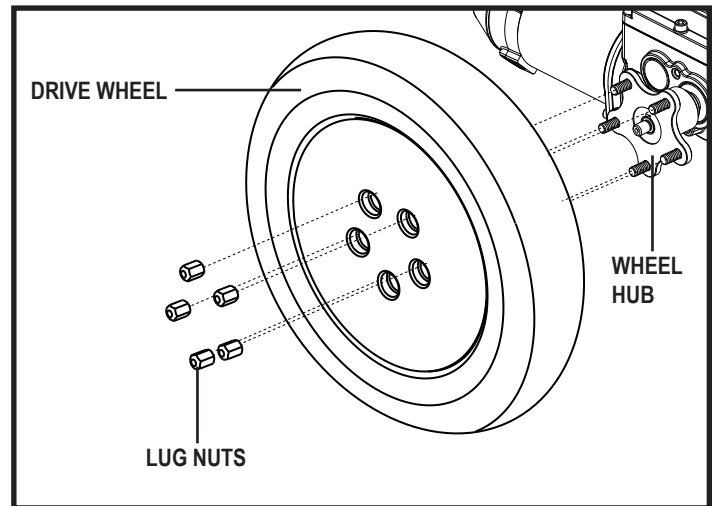

Figure 23. Drive Wheel Removal
4. Remove the five (5) lug nuts from the wheel hub.
**See figure 23.**
8. Reinstall the five (5) lug nuts onto the wheel hub and tighten. **See figure 23.**